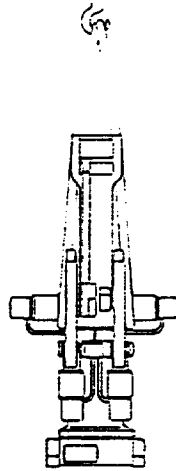

Figure 2-2
(see Figure 2-2).
1. Raise the robot a bit with straps wound around the motors, see Figure 2-2 above.